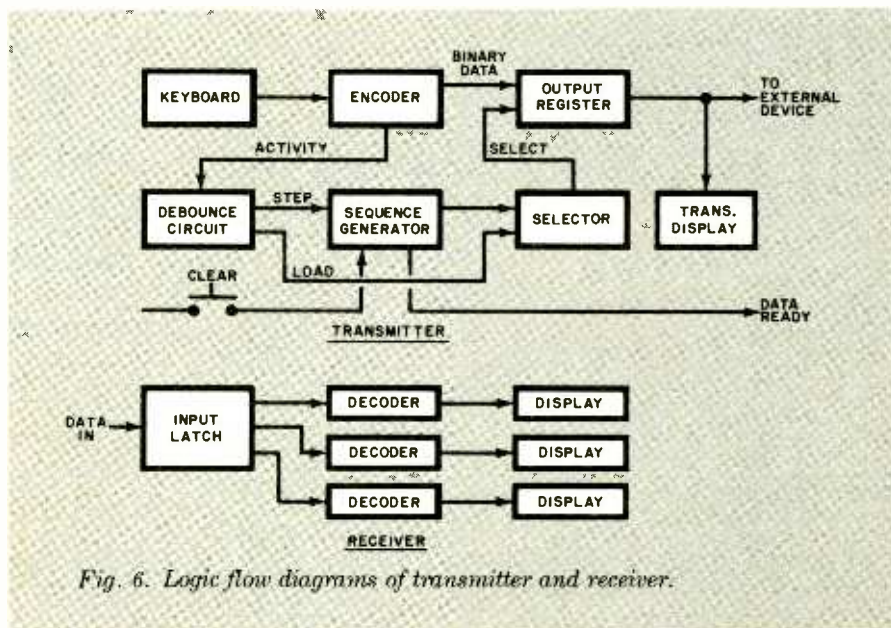

Fig. 6. Logic flow diagrams of transmitter and receiver.
ter and stores it until transmission; (4) determines where each piece of data goes in the output register; (5) transmits a "ready" signal after the third octal number is entered; (6) receives and stores binary data from the computer; and (7) decodes this computer data in either octal, decimal, or hexadecimal display format. The overall block diagram of the terminal shown in Fig. 6 should be consulted whenever any question concerning functions arises.